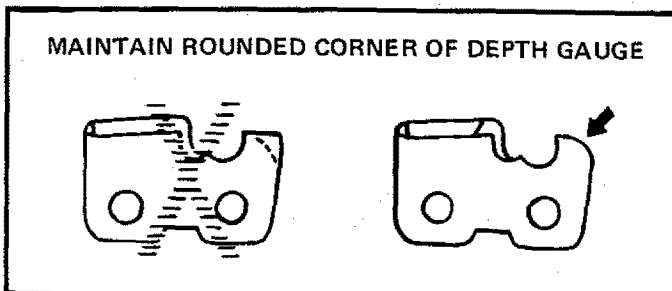

Figure 41
- c.) Maintain rounded front corner of depth gauge. Figure 41.